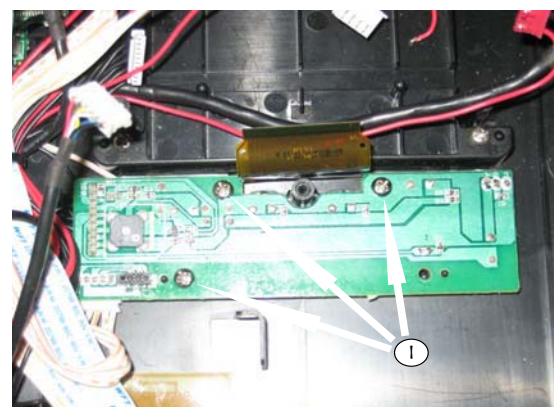

Figure 9
- 2) Loosen 3 screws "I" to detach Control Board as shown in figure 9.